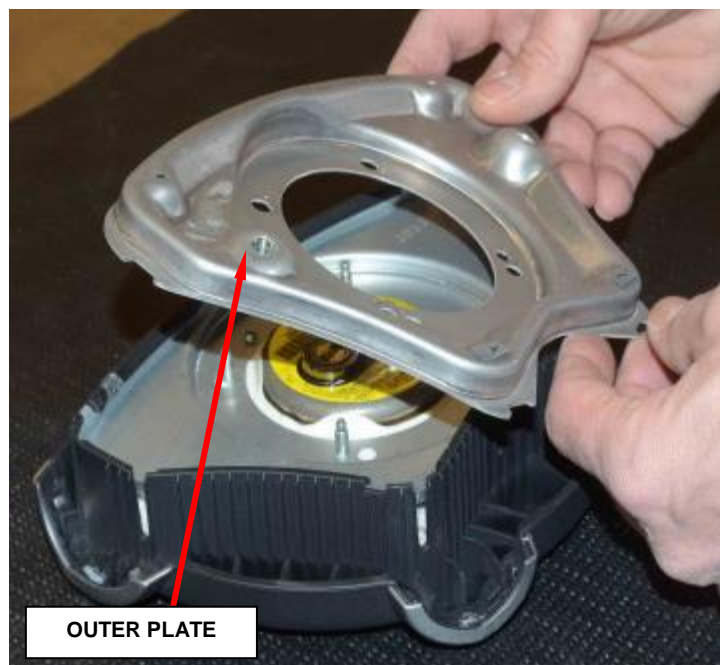

Figure 5 – Outer Plate Removal
9. Remove and **save** the outer plate by hand (Figure 5).